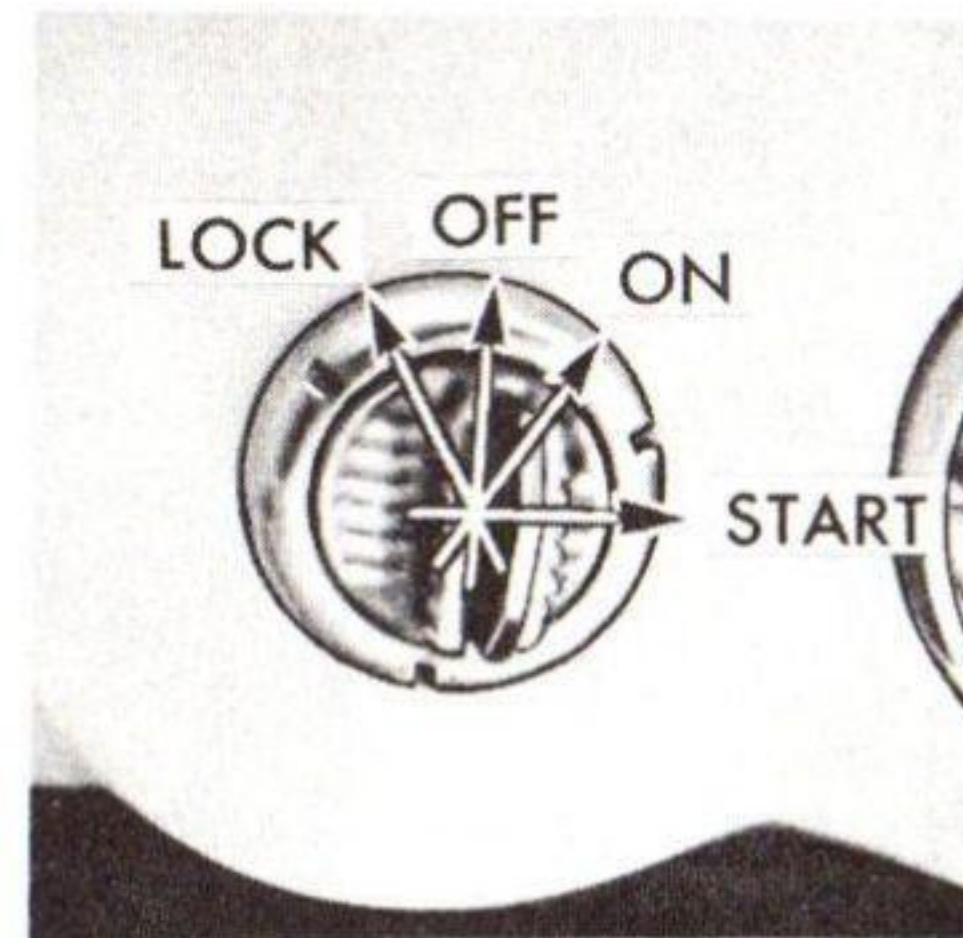

Fig. 10—Key Starter and Ignition Switch
The four positions of the key starter (fig. 10) are: LOCK, OFF, ON and START. To operate, turn switch to START. As soon as the engine starts, release switch, which will return to ON position. The key is required only when turning to or from LOCK position.
3. Hold accelerator pedal down halfway and turn key starter to START (fig. 10). Release as soon as engine starts. Key starter will automatically return to ON.